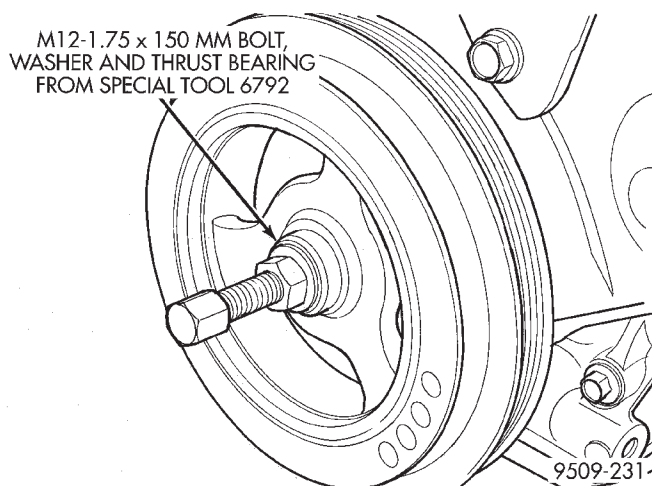

Fig. 57 Crankshaft Damper—Installation
- (8) Install front half of timing cover.
- (9) Install engine mount bracket.
- (10) Install power steering pump assembly.
- (11) Install right engine mount. Refer to procedure outlined in this section.
- (12) Remove jack from under engine.
- (13) Install crankshaft damper using M12 1.75 x 150 mm bolt, washer, thrust bearing and nut from Special Tool 6792. Install crankshaft damper bolt and tighten to 142 N·m (105 ft. lbs.) (Fig. 57).
- (14) Install accessory drive belts. Refer to Group 07, Cooling System for procedure.
- (15) Raise vehicle on hoist and install right inner splash shield.
- (16) Lower vehicle and perform camshaft and crankshaft timing relearn procedure as follows: